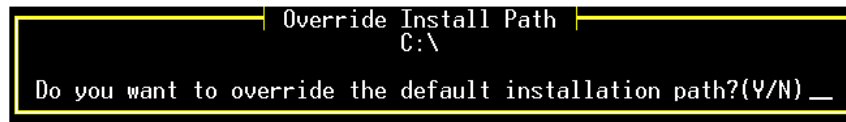

Figure 4-3: The Update Program's Installation Override Prompt
5. If you are given the option of overriding the installation path, then the prompt illustrated in Figure 4-3 displays.